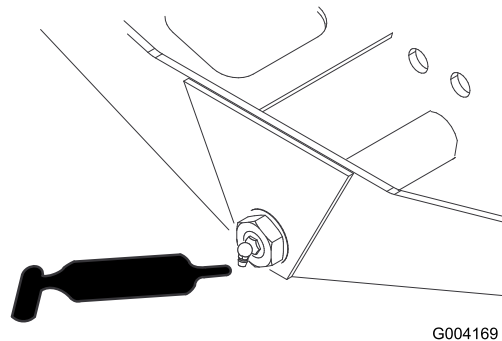

Figure 32
- Axle steering pivot (1) (Figure 32)